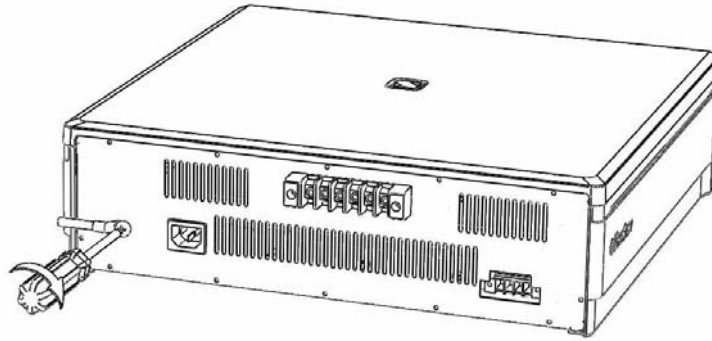

Figure 5.10 Grounding
- 1) Ground the system to the grounding lug at the rear side of 7150. (see figure 5.10)